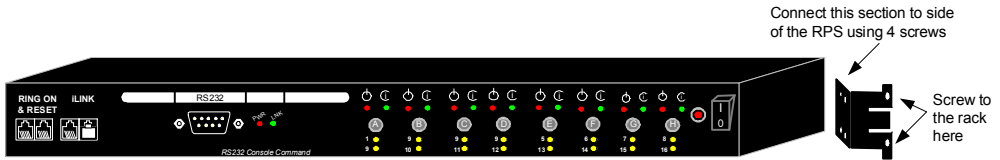

Figure 5 Connecting the mounting brackets
2. Connect the mounting brackets to the unit, using the screws provided. See Figure 5.